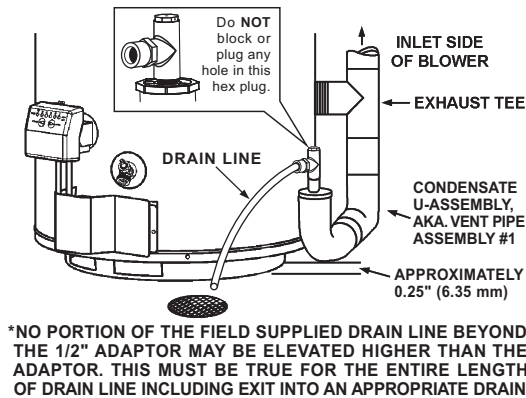
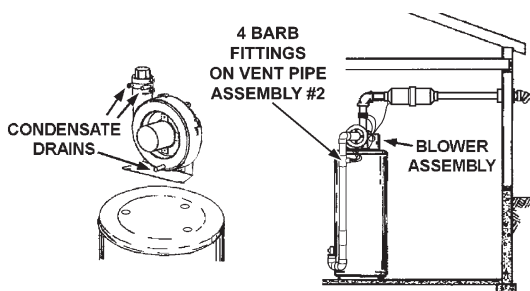

FIGURE 16.
FIGURE 17.
Assemble Vent Pipe Assemblies #1, #2 and #3 (See Figure 1) prior to cementing. The preferred orientation of Vent Pipe Assembly #1 (Condensate U-Assembly) is shown in Figure 16. However this assembly may be rotated to a different orientation as needed for the specific installation requirements. Note the rotational orientation of each part by marking a line several inches long across the joints. The long tube of Vent Pipe Assembly #2 should be approximately vertical. If it is found that either of the two pieces of pipe in Vent Pipe Assembly #2 are too long for proper fit-up, then remove as little material as possible to improve the fit-up. Keep in mind that the pipes will insert slightly further into the elbows when cement is applied as it acts as a lubricating agent. The vertical distance from the bottom of the Condensate U-Assembly to the floor that supports the water heater should be approximately 0.25" (0.64 cm),
see Figure 16. Disassemble the parts and cement back together using the alignment marks. After the cement dries, attach the assembly to the blower and the water heater exhaust using the supplied rubber boots and hose clamps.
3. The blower discharge adapter is made to accept only straight sections of 2" pipe. To start, a minimum of 2 inches (5.1 cm) of 2" pipe must be attached to the blower discharge, see Figure 17.
4. There will be some installations where condensate will be formed in the horizontal runs of the vent system. This condensate will run into the condensate boot attached to the blower and out the fitting. The water heater is shipped with condensate hose that attaches to the fitting on the condensate boot. No other Tee or fitting is required. See Figures 17, 20 and 21.
This water heater is a condensing unit and requires a drain to be located in close proximity to allow condensate to drain safely. One hose from blower housing, two flexible hoses from blower outlet adaptor, along with another flexible hose from VAA if installed, run to barb fittings on vent pipe assembly #2. Hose is clamped by rubber clips and flexible hoses by a clamp on jacket top cover. See Figure 17. Condensate drains from the unit at the exhaust tee located at the bottom of the unit (see figure 16). Condensate from this water heater is mildly acidic. Please note that some local codes require that condensate is treated by using a pH neutralizing filter prior to disposal.
**NOTE:** It is important that the field supplied drain lines beyond the 1/2" adaptor of vent pipe assembly #1 should be installed continuously tilted downward toward an appropriate drain. See Figure 16. If these instructions are not followed or if condensate drain line is blocked, water will spill from condensate trap. Do not block the holes in the hex plug on top of a small tee in vent pipe assembly #1. As with every water heater installation, a drain pan should be used to prevent water damage to surrounding area. If necessary, a condensate pump with an incorporated reservoir may be used to pump water to an appropriate drain. To avoid condensate spillage, select a pump with an overflow switch.
Condensate is likely to form in the venting system attached to this water heater. The vent pipe should be sloped downward away from the blower assembly (not less than 1/8" (3.2 mm) nor greater than 1/2" (12.7 mm) per foot (30 cm) maximum). If the vent piping is vented level or sloped upwards away from the blower assembly, then adequate means for draining and disposing of the condensate needs to be made by the installer. Two 3/8" condensate hoses should be connected to the built in drain ports of blower outlet adaptor. If a VAA is installed, a 3/8" condensate hose should be connected to the barb fitting on it; otherwise the unused barb fitting on vent pipe assembly #2 should be plugged with one of the break-away plugs. See Figure 17.
3. Condensate drains from three locations on blower assembly. See Figure 17. One flexible hose runs from bottom of blower housing; two run from the ports of rubber connector at the outlet of blower. All these three condensate hoses are connected to barb fittings at vent pipe assembly #2. The hose from bottom of blower housing is clamped by two clamps and the two hoses from rubber connector are harnessed by another clamp. Make sure there is no kink or twist.